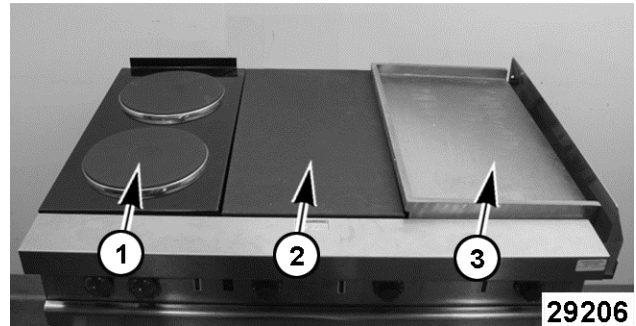
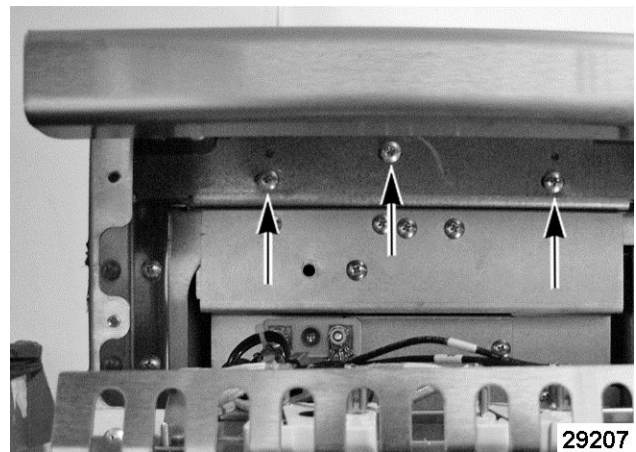
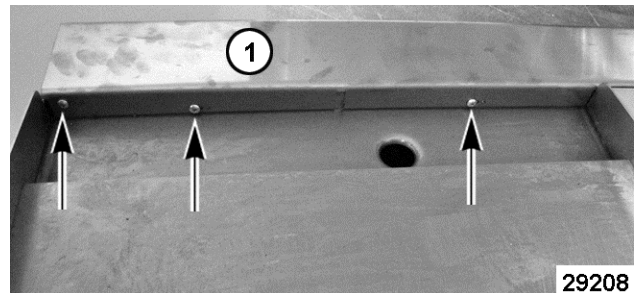

Fig. 10
Fig. 11
Fig. 12
- A. French Plate (1, Fig. 10) - Remove screws securing French Plate (Fig. 11) to frame.
- B. Hot Top (2, Fig. 10) - Remove screws securing bull nose (1, Fig. 12) to frame then lift bull nose off range.
- C. Griddle (3, Fig. 10) - Remove screws securing bull nose (1, Fig. 12) to frame then lift bull nose off range.